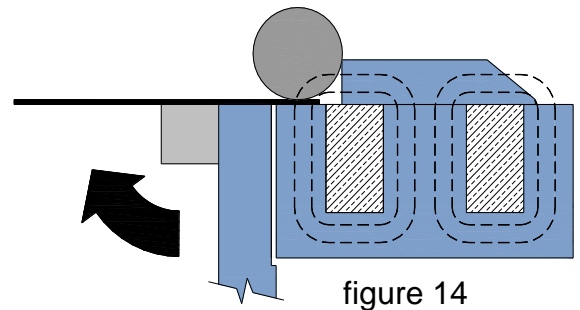

figure 14
1. Position the clamping bar and the round bar as shown in (fig. 14) to ensure that the piece part is positioned correctly. Energize the electromagnet.